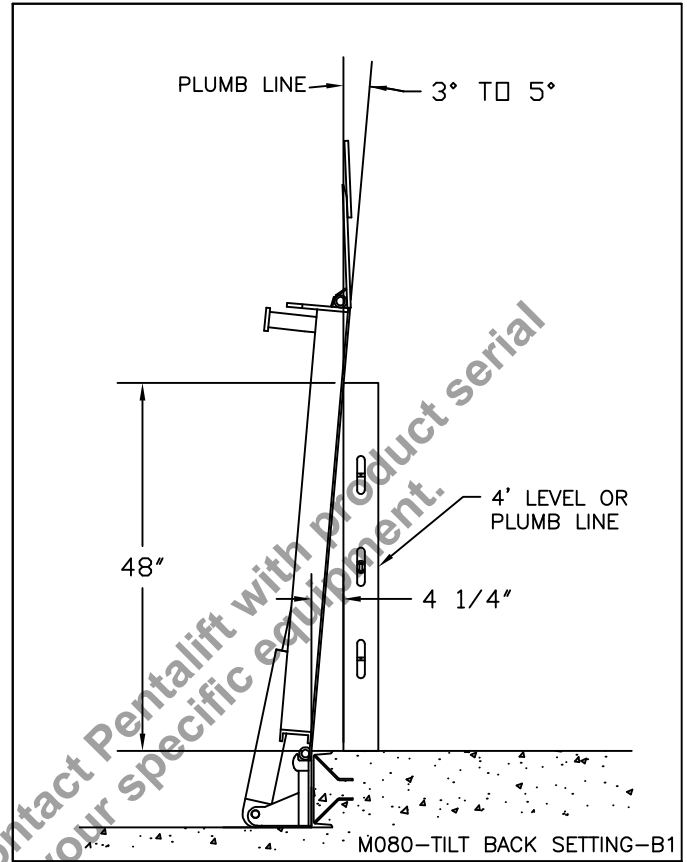

Figure 18: Tilt Back Setting
18. ___ Ensure the leveler, when in its stored position, leans backward 5° from a fully vertical position. At a height of 4’ from the top of the curb channel using a 4’ level or plumb line held plumb, place the level against the deck and flush with dock floor (See “Figure 18: Tilt Back Setting” on page 25). The level or plumb line should be 4-1/4” from the deck plate at floor level.
11. ___ Tilt Back Setting (see “Figure 18: Tilt Back Setting” on page 25)